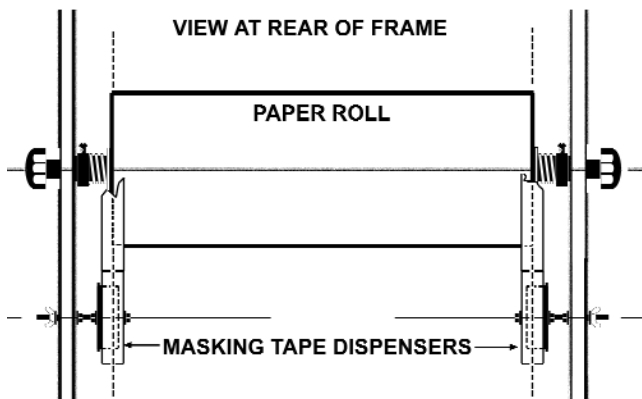

Fig.1
- 2.8 To assemble the four tape reels as shown in fig.1 take a long bolt **12** and drop a washer **11** onto it followed by a black plastic hub **21**. Slide a reel **20** over the bolt and onto the hub ensuring that it is the right way round. Retain the assembly using another washer followed by a nut. After the nut has been tightened the reel should still run freely on the hub. Attach another nut to the bolt and insert the bolt through the frame in one of the four places indicated on the main drawing. Retain the assembly in place using a wingnut **28** and a washer **11**.